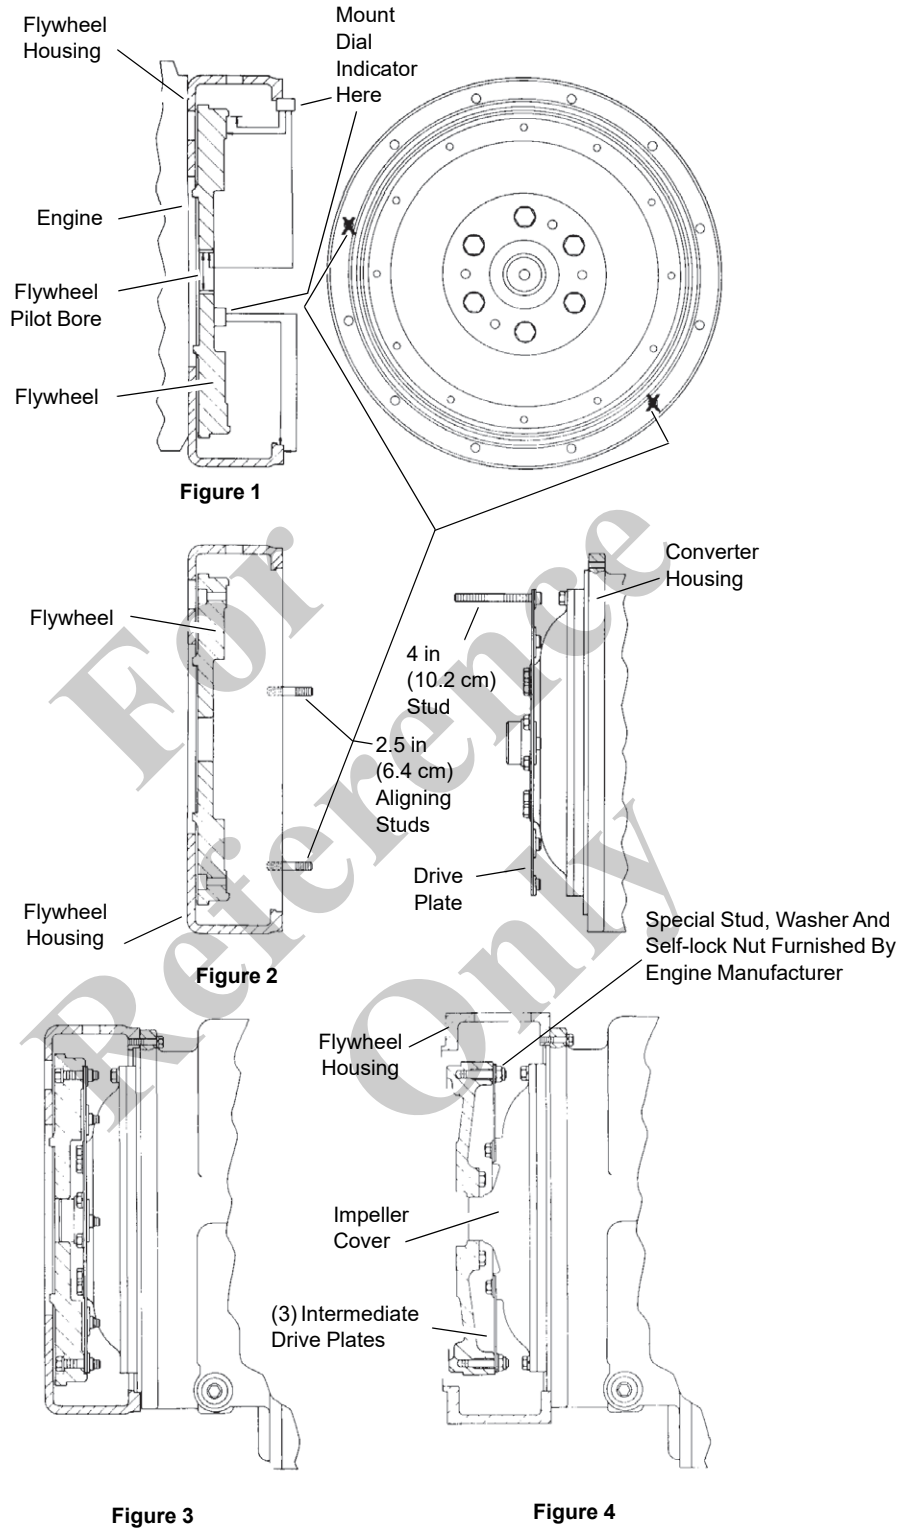

FIGURE 7-17
- NOTE:** Refer to Figure 7-17 for a typical transmission/torque converter installation.